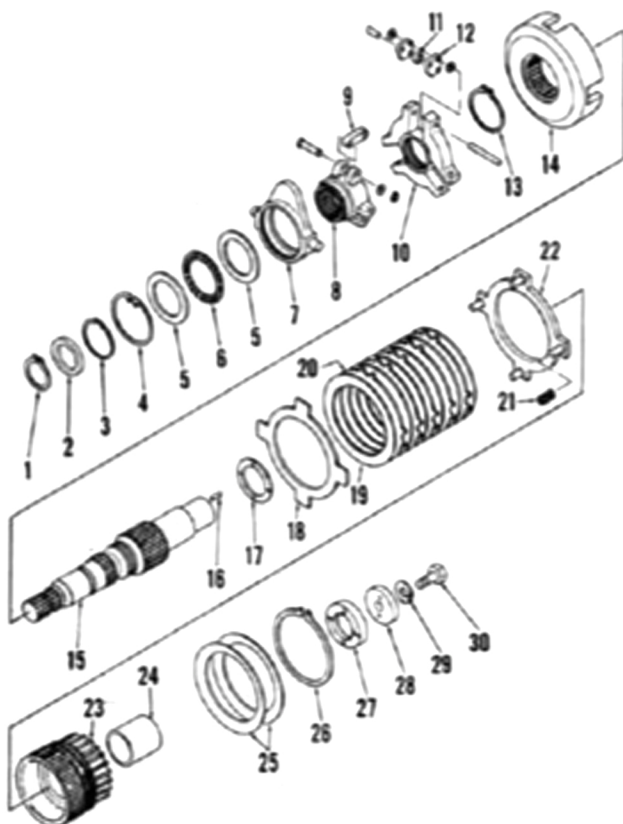

Fig. 19—Exploded view of multi-plate clutch assembly.
9. R&R AND OVERHAUL. To remove the front drive clutch assembly, first drain the oil from the range transmission housing. Loosen the locknut and set screw, then separate rear telescoping drive shaft from clutch output shaft. Refer to Fig. 18 and disconnect clevis (30) from arm on shaft (29). Unbolt and remove front cover (1) with gasket (2) and oil seal (3). Drive out roll pins (26), slide shaft out side of housing (20) and remove fork (25). Unbolt and remove side cover (22) with gasket (21) and rear cover (18) with gasket (19). Wire across the tabs of clutch back plate and return plate to hold clutch pack together. Straighten lockwasher (29 - Fig. 19), then remove cap screw (30), lockwasher and plate (28). Drive clutch assembly (5 - Fig. 18) forward out of rear bearing (6) and remove through front opening of housing.
Using a suitable puller, remove front bearing (4). Remove snap ring (1 - Fig. 19) and washer (2). Remove pins and disconnect three actuator links (9) from clutch sleeve (8), then slide clutch sleeve and release bearing assembly from shaft. Remove snap rings (3 and 4) and separate thrust washers (5), thrust bearing (6), bearing retainer (7) and clutch sleeve. Unscrew and remove adjusting ring (10). Remove outer thrust washer
(27), clutch gear and hub (23) and inner thrust washer (17). Remove snap ring (26) and Belleville washers (25) from clutch gear and hub. Remove the clutch and place assembly on a bench. Remove the retaining wires and lift off clutch cup (14). Remove return plate (18), clutch discs (19) and clutch plates (20), then remove return springs (21) from back plate (22).
clutch in engaged (4) position, again measure distance (A). The difference between the two measurements must be within the range of 0.090 to 0.106 inch. If necessary to adjust the clutch, move clutch sleeve (8—Fig. 19) far enough on shaft to clear the splines. Rotate adjusting ring and clutch sleeve assembly clockwise to increase the difference in measurements or counter-clockwise to decrease the difference. One spline tooth movement changes the difference about 0.0025 inch.
Install lever bracket (35-Fig. 18). Wire across tabs of clutch back plate and return plate to keep the clutch plates together, then install clutch assembly in the housing. Remove cap screw (30-Fig. 19), plate (28) and the tubing spacer. Place bearing (6-Fig. 18) on rear of shaft and using plate (28-Fig. 19) and cap screw (30), pull bearing on the shaft and into housing. Remove cap screw, install lockwasher (29), then tighten cap screw to a torque of 65 ft.-lbs. Bend over lock tab on washer. Install clutch fork (25-Fig. 18), insert shaft (29) and secure with roll pins (26). Install new oil seal (3) in front cover (1) so lip will be toward bearing (4). Using new gasket (2), install front cover and tighten cap screws to 33 ft.-lbs. torque. Install rear cover (18) with new gasket (19) and tighten cap screws to 33 ft.-lbs. torque. Connect clevis (30) to arm on clutch shaft (29). Remove wires retaining clutch plates. Using new gasket (21), bolt side cover (22) in place. Connect rear telescoping drive shaft "U" joint to the clutch output shaft and secure with set screw and locknut.